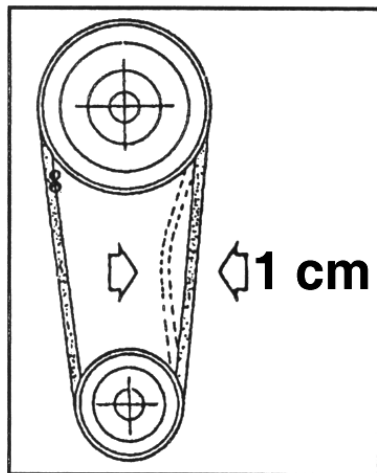
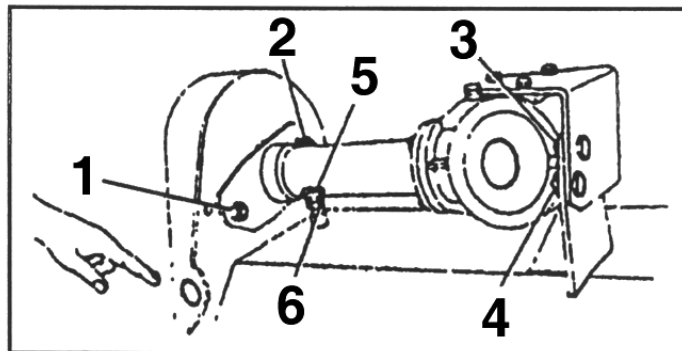

Fig. 8
Fig. 9
1. Check belt tension before each use (*Fig. 8*). The tension is correct when you can depress one belt 1 cm ($3/8$ ") between the two pulleys. It is possible for you to insert a tool through the belt cover (*Fig. 9*), with mower stopped, to check the tension.
2. To adjust the belt tension, loosen bolts 1, 2, 3 & 4 and locknut 6 (*Fig. 9*). To adjust tension, move bolt 5. Do not forget to tighten all bolts after correct belt tension is achieved. If a belt requires replacement, replace all other belts as well.